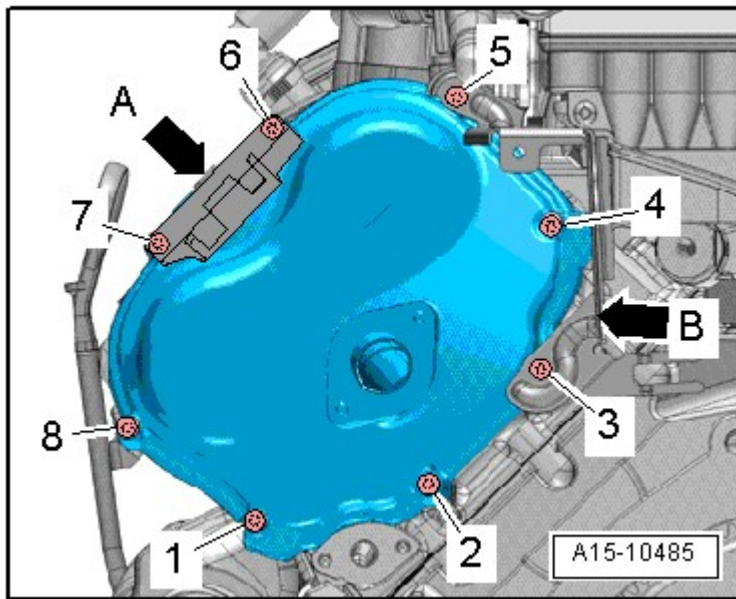

Fig. 15: Identifying Left Timing Chain Cover Tightening Sequence
- Tightening specification and sequence, refer to **Fig. 15**